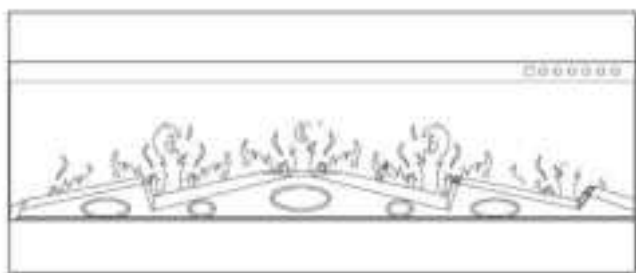

Figure 1
- B. If your fireplace come with log-set, take the log-set out of the package and put it to the fireplace media slot . **Figure 1.**